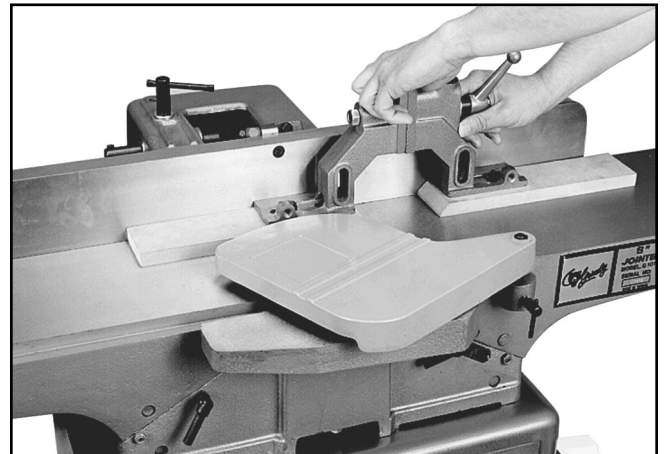

Figure 30. Resurfacing fences on a jointer.
3. If the wood fences are not coplanar with each other, resurface as one unit. You can perform this operation on a jointer as shown in **Figure 30**.